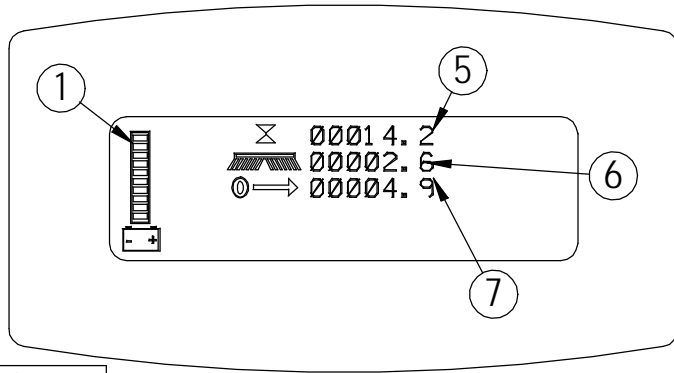

FIGURE 9.
6. SCRUBBING BRUSH HOUR METER - TELLS YOU THE TOTAL HOURS THE BRUSH MOTORS HAVE BEEN USED. (SEE FIGURE 9.)
7. TRANSPORT HOUR METER - TELLS YOU THE TOTAL HOURS THE DRIVE SYSTEM HAS BEEN USED. (SEE FIGURE 9.)